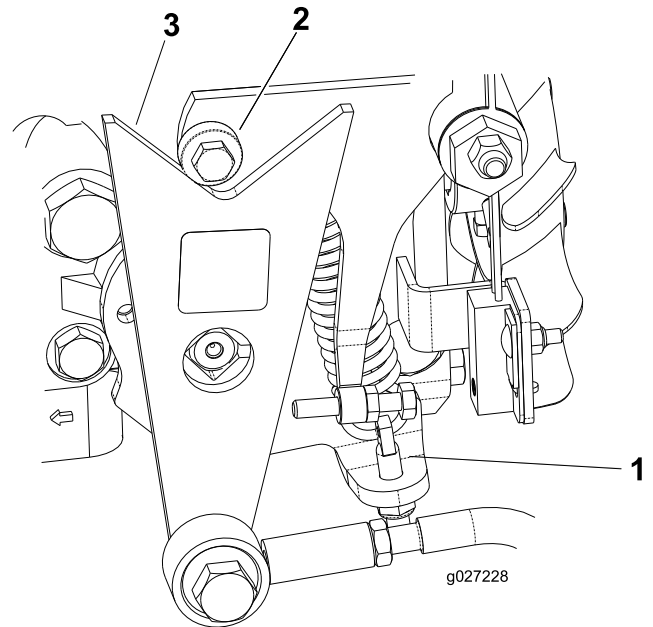

Figure 48
- If the wheels rotate in the proper direction, shut off the engine and adjust the spring-adjusting pin locknut (Figure 48). Adjust the traction neutral position; refer to Adjusting the Traction Drive for Neutral (page 29).